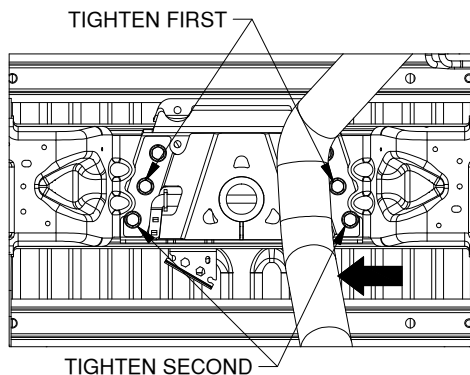
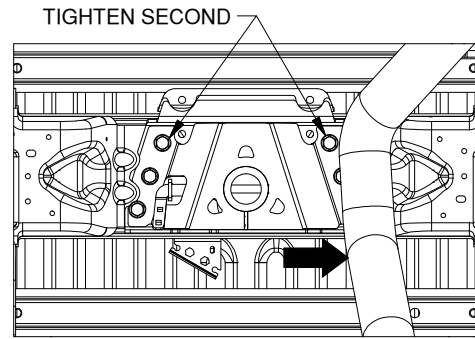

Figure C1: View under bed looking at center (Exhaust pushed toward inside.)
Figure C2: View under bed looking at center. (Exhaust pushed toward outside)
- 2. Tighten the bolts.** With the hitch square and firmly pressed against the frame cross member, tighten the 5/8" bolts. Tighten the center bolt of each three-bolt pattern first, see figure C1. Then tighten the rest, see figure C2. To better access the bolts on the passenger side of the center section move the exhaust as needed to allow access to the bolts. Torque the bolts to 100 ft. lbs.